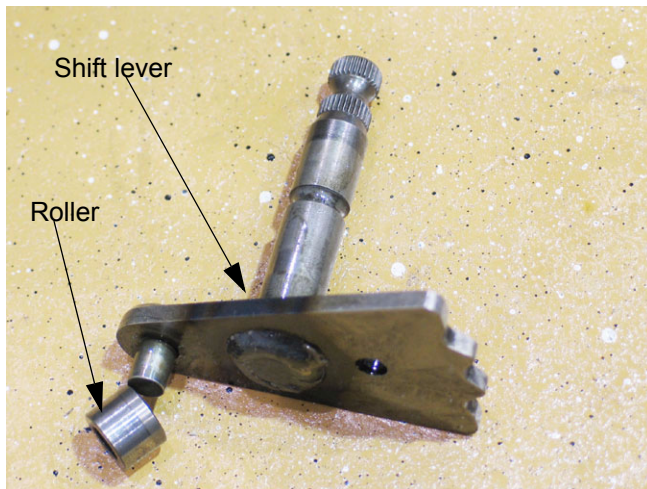

Figure 9.47
9.47. The shift lever can be removed through the inside of the housing. there is a roller on the pin that engages the shift collar. See Figure 9.47.